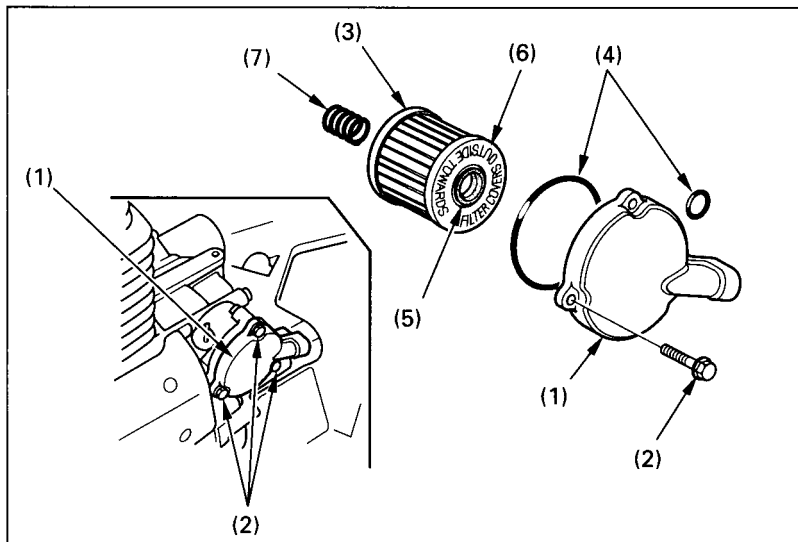

Fig. 4-12 (1) Oil filter cover
3. Remove the oil filter cover (1) (Fig. 4-12) by removing the bolts (2). Let the remaining oil drain out. Discard the oil filter (3).
4. Check that the oil filter cover O-rings (4) are in good condition and then install a new oil filter. Use only the Honda genuine oil filter or a filter of equivalent quality specified for your model. Using the wrong Honda filter or a non-Honda filter which is not of equivalent quality may cause engine damage.
5. Install the filter with the rubber seal (5) facing out, away from the engine. You will see the "OUTSIDE (TOWARDS FILTER COVER)" mark (6) on the filter body, near the seal.
6. Reinstall the oil filter cover (1), making sure the bolts (2) are tightened securely.